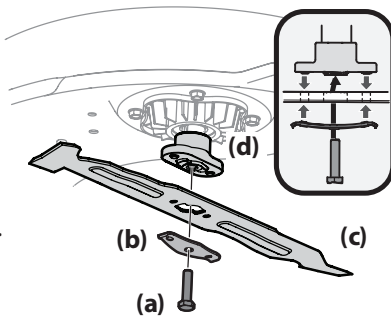

Figure 27
3. Remove the hex screw (a) and the blade bell support (b) which holds the blade (c) and the blade adapter (d) to the deck motor. See Figure 27.
4. Remove blade (c) and adapter (d) from the deck motor spindle. See Figure 27.